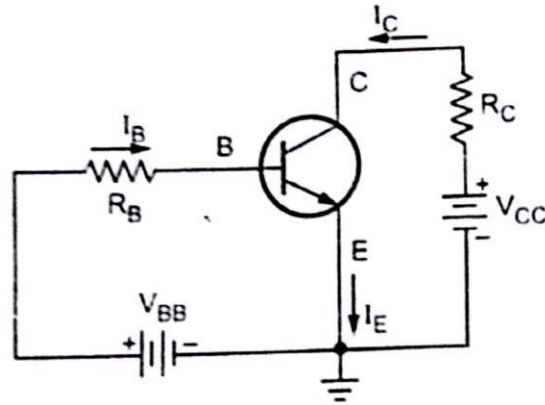

Fig.10: Common Emitter Configuration for npn transistor
As shown in Fig.10, input is applied to base-emitter (BE) terminals and output is collected across collector-emitter(CE) terminals and emitter is common between input and output terminals.
As the input characteristics is between the base to emitter junction, the plot resembles the diode forward characteristics. Since emitter-base junction is forward biased as shown in Fig.10, the input characteristics are similar to pn-diode forward characteristics. After the cut in voltage, the I_B increases rapidly with small increase in voltage, V_{BE} . The dynamic input resistance is small in CE configuration. It is the ratio of change in base current at constant collector emitter voltage.